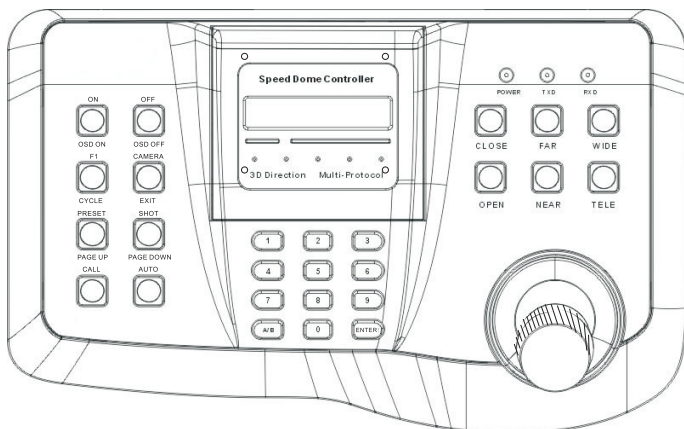

Figure 8 Character control keyboard panel
1. front panel introduce (figure 8/8-1)